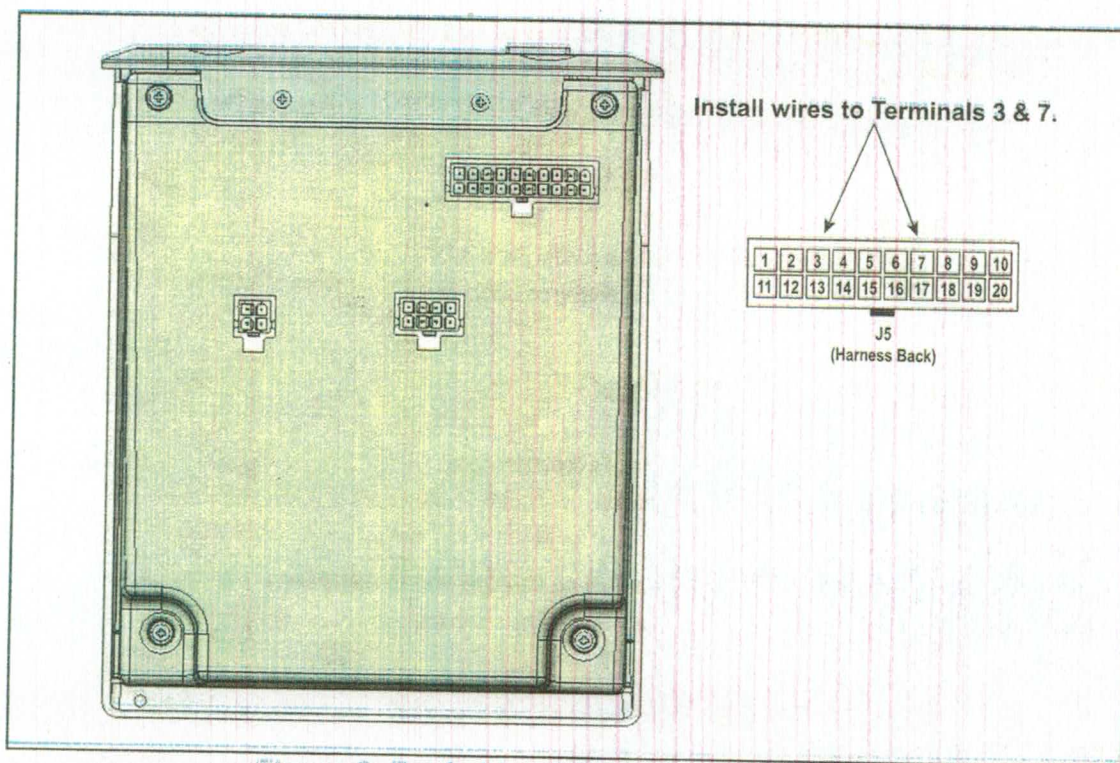

Figure 2. Backside of PowerPact Controller
1. Unplug the 20 pin wire harness connector (J5) from the controller panel by carefully releasing the latch on the side of the connector. See Figure 2.